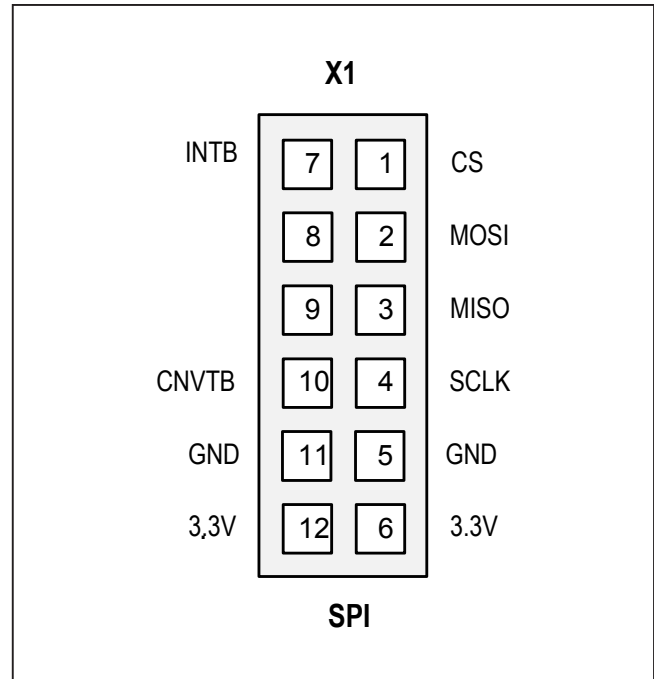

Figure 1. X1: Pmod SPI Connector Pin Configuration
- Connector X1 provides connection of the module to the Pmod host. See Table 1 and Figure 1 for detailed description.